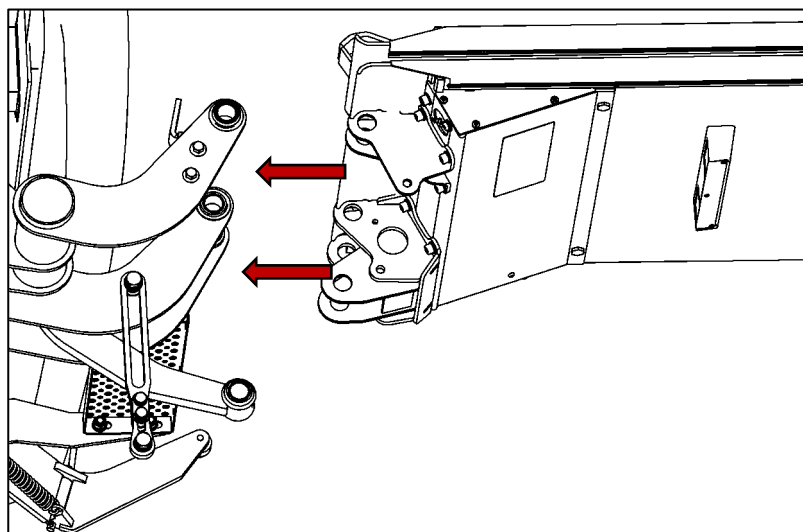

Fig. 54
- Align the top bearing points of the platform (platform attachment points) with the swing-arm bearing points (top attachment points of the lifting gear) (see Fig. 54).